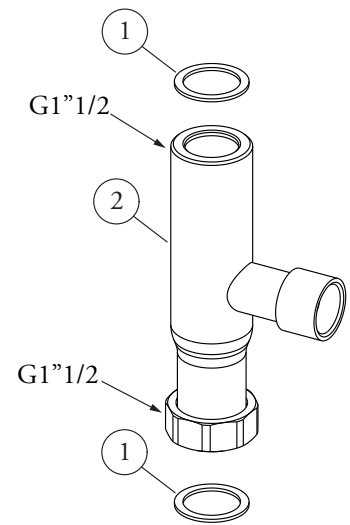

Fig. 2
Connect the 3-way kit for coupling with generator unit as shown in fig. 2, making sure to interpose the seals (1).